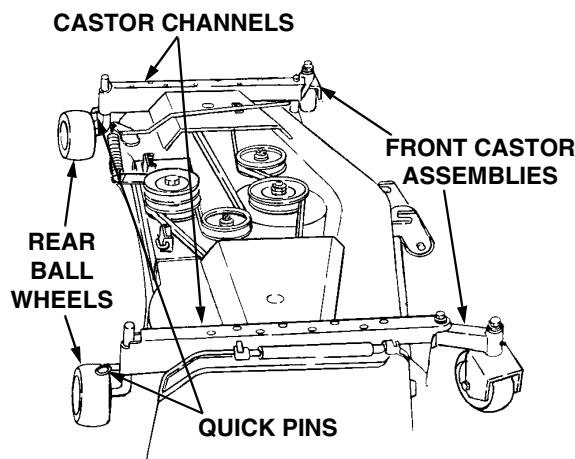

Figure 44
2. To ease sliding the deck out from under the tractor, reposition all four ball wheels as shown in Figure 44. To reposition the rear wheels; remove the quick pins, rotate the rear wheels 90°, and raise them to their uppermost position in the castor channels. Install the two quick pins in the rear holes of the castor channels to secure the rear wheels in this position. Temporarily remove the quick pins and rotate the front castor assemblies outward.